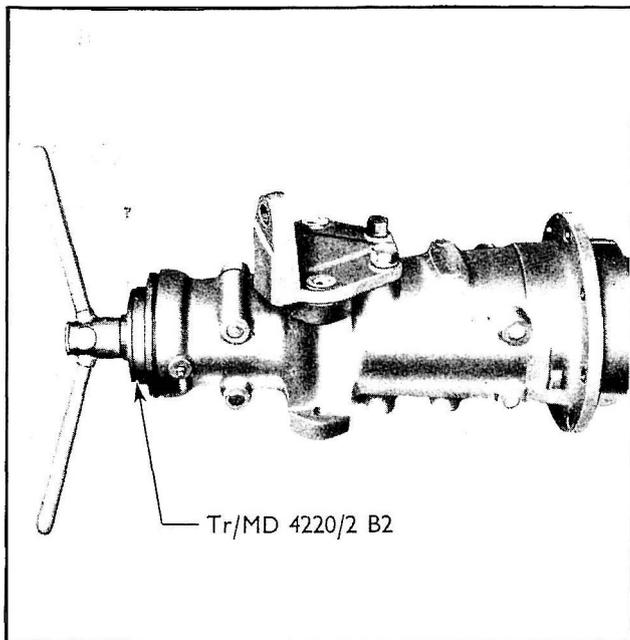

Fig. 174
- 2 Fit the inner- and outer bearing cups on the axle housing. The tool No. Tr/MD 4220/2B2 permits both cups to be replaced simultaneously (see Fig. 174.)